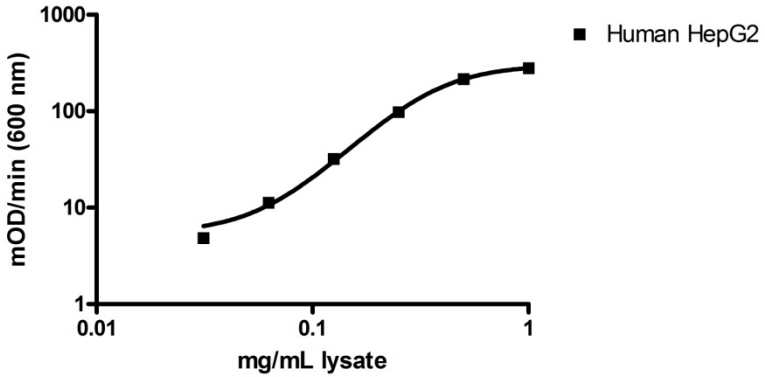

Figure 4. Example sample curves demonstrating the working range of the assay for a human cultured cell line lysate (HepG2).
**Quantity** – Quantity data is analyzed in a very similar way to activity data. To do this average the duplicate control sample readings and plot against their concentrations. Draw the best smooth curve through these points to construct a standard curve. Most luminometer software or graphing software can plot these values and curve fit. A four parameter algorithm (4PL) usually provides the best fit, though other equations can be examined to see which provides the most accurate (e.g. linear, semi-log, log/log, 4 parameter logistic), see Figures 4 and 5.